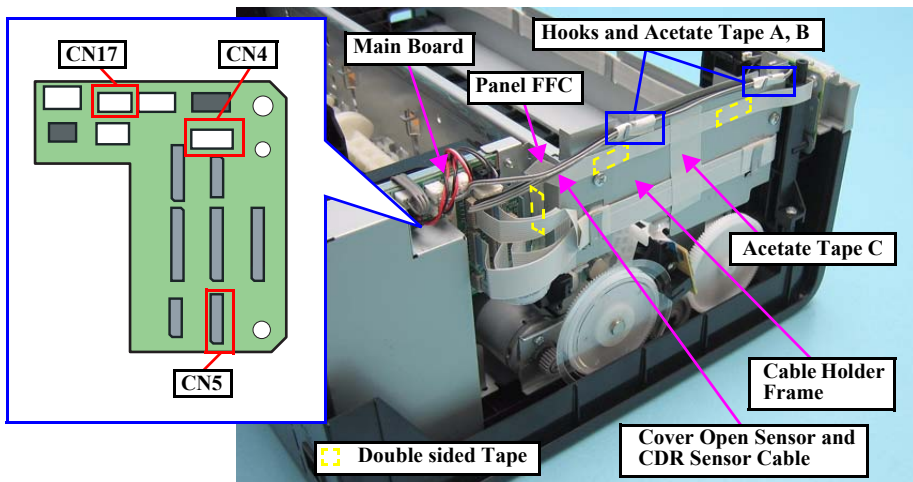

Figure 4-23. Removing the Panel Assy (1)
2. Peel off the double-sided tape that secures the Panel FFC to the Holder Frame and release the Panel FFC. (Fig.4-23 (p.67))